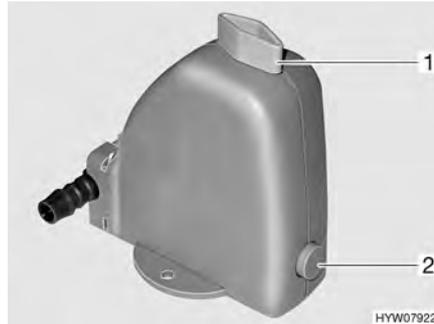

Fig. 177 Safety/drainage valve of the boiler
The boiler is equipped with a safety/drainage valve (Fig. 177). The safety/drainage valve prevents water in the boiler from freezing, when there is frost and the heater is not switched on.
- Close the safety/drainage valve. Turn the knob (Fig. 177,1) perpendicular to the safety/drainage valve and press the button (Fig. 177,2) in.
- Open the safety/drainage valve. To do this turn the knob (Fig. 177,1) parallel to the safety/drainage valve. The snap fastener (Fig. 177,2) jumps out. The boiler is drained to the outside by the safety/drainage valve.